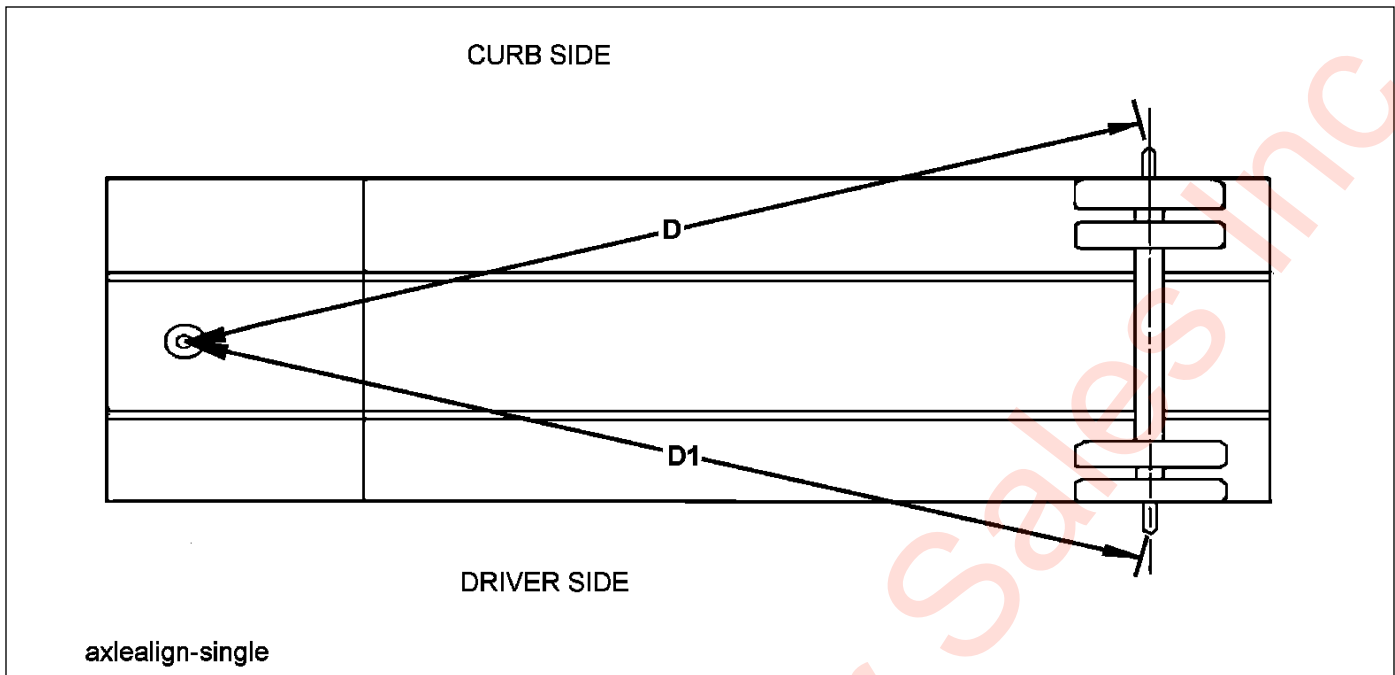

Figure 4-7: Checking Axle Alignment
3. Move the axle gauge and place against the back side of the axle. If either of the points of double point end fails to touch the axle surface, a bent spindle is evident. A point gap of .015" or more is considered excessive tire "toe" and the axle must be replaced (See Figure 4-7.)
4. Measure (D) from the plumb bob to the center point on one end of the axle. Record this measurement (**See Figure 4-7.**)
5. Measure (D1) to the other end of the axle in the same manner as in **step 4**. Record this measurement (**See Figure 4-7.**)